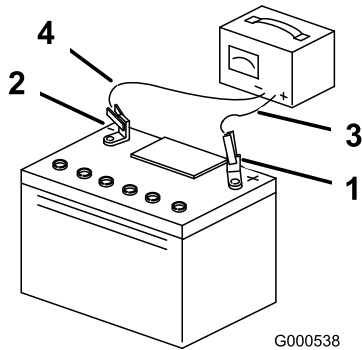

Figure 44
3. When the battery is fully charged, unplug the charger from the electrical outlet, then disconnect the charger leads from the battery posts (Figure 44).